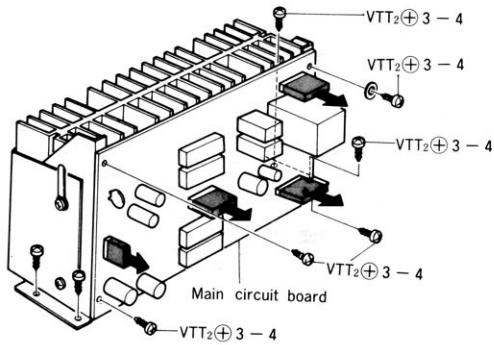

Fig. 9
- 1) Remove 4 connectors. (Refer to Fig. 9)
- 2) Remove 4 screws of the heat sink. (Refer to Fig. 9)
- 3) Remove 4 screws of the circuit board. (Refer to Fig. 9)